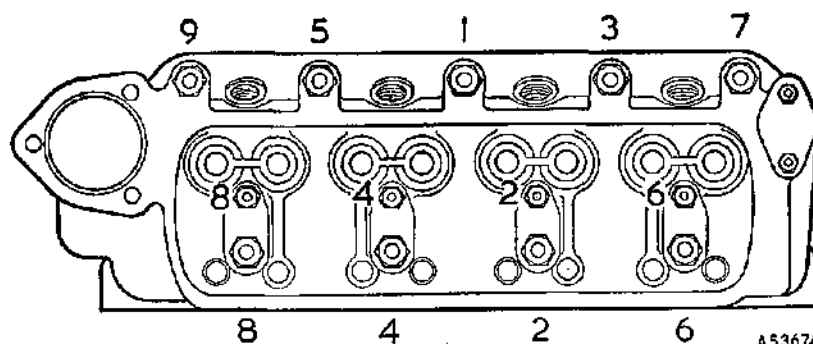

Fig. A.4
- (1) Remove the bonnet.
- (2) Drain the cooling system (Section C.1).
- (3) Disconnect the battery and electrical connections from the cylinder head.
- (4) Remove the carburetter air cleaner (Section A.1).
- (5) Remove the carburetter (with cables attached) from the manifold and position it clear of the cylinder head.
- (6) Disconnect the exhaust pipe from the manifold flange.
- (7) Release the automatic advance suction pipe and remove the rocker cover.
- (8) Cooper 'S'. Remove the bolt (A) and nut (B) before releasing the remaining cylinder head nuts.
- (9) Progressively slacken and remove the cylinder head nuts in the reverse sequence shown in Fig. A.4.
- (10) Remove the rocker shaft, push-rods, and the radiator tie-plate from the thermostat housing.
- (11) Disconnect the top water hose and slacken the clip securing the water pump to cylinder head by-pass hose.
- (12) Disconnect the heater hose and cable from the water valve on the rear of the cylinder head.
- (13) Lift the cylinder head squarely off the studs; if the head does not release easily from the block, tap each side of the head with a soft-faced mallet. Lift the gasket from the studs.
- (14) Reverse the removing procedure, noting the following points:
- (b) Progressively tighten the cylinder head and rocker shaft nuts, and finally tighten to the torque figures given in 'GENERAL DATA' and in the sequence shown on Fig. A.4.
- Cooper 'S'. The additional bolt and nut (Fig. A.4) must be tightened last.
- (15) Adjust the valve rocker clearances as detailed in 'Adjustment' (Section A.5). Start the engine, and when at normal running temperature re-check the clearances. ●
● Fig. A.4
- (10) Thoroughly clean the faces of the cylinder head and the top of the block, and fit a new gasket without jointing compound or grease. The gasket is marked 'TOP' and 'FRONT'.
- (11) Tighten the cylinder head and rocker shaft nuts to the correct torque and in the order shown in Fig. A.4. The additional bolt on the Cooper 'S' must be tightened last. **Do not overtighten.**
- (12) Adjust the valve rocker clearances, start the engine and when warm re-check.